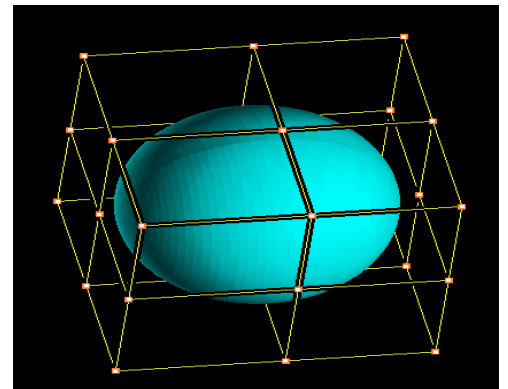

Figure 5
- Nesting cannot be applied for 3-D as it may encounter a singular point. As shown in figure 5, it cannot be applied along 3D sheet.